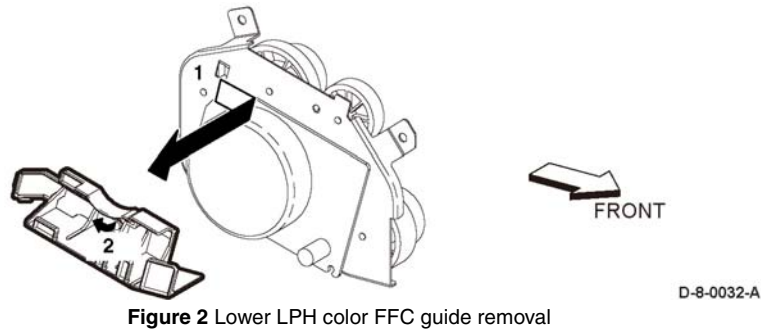

Figure 2 Lower LPH color FFC guide removal
16. Release the hook (1), then remove the lower LPH color FFC guide (2), Figure 2.